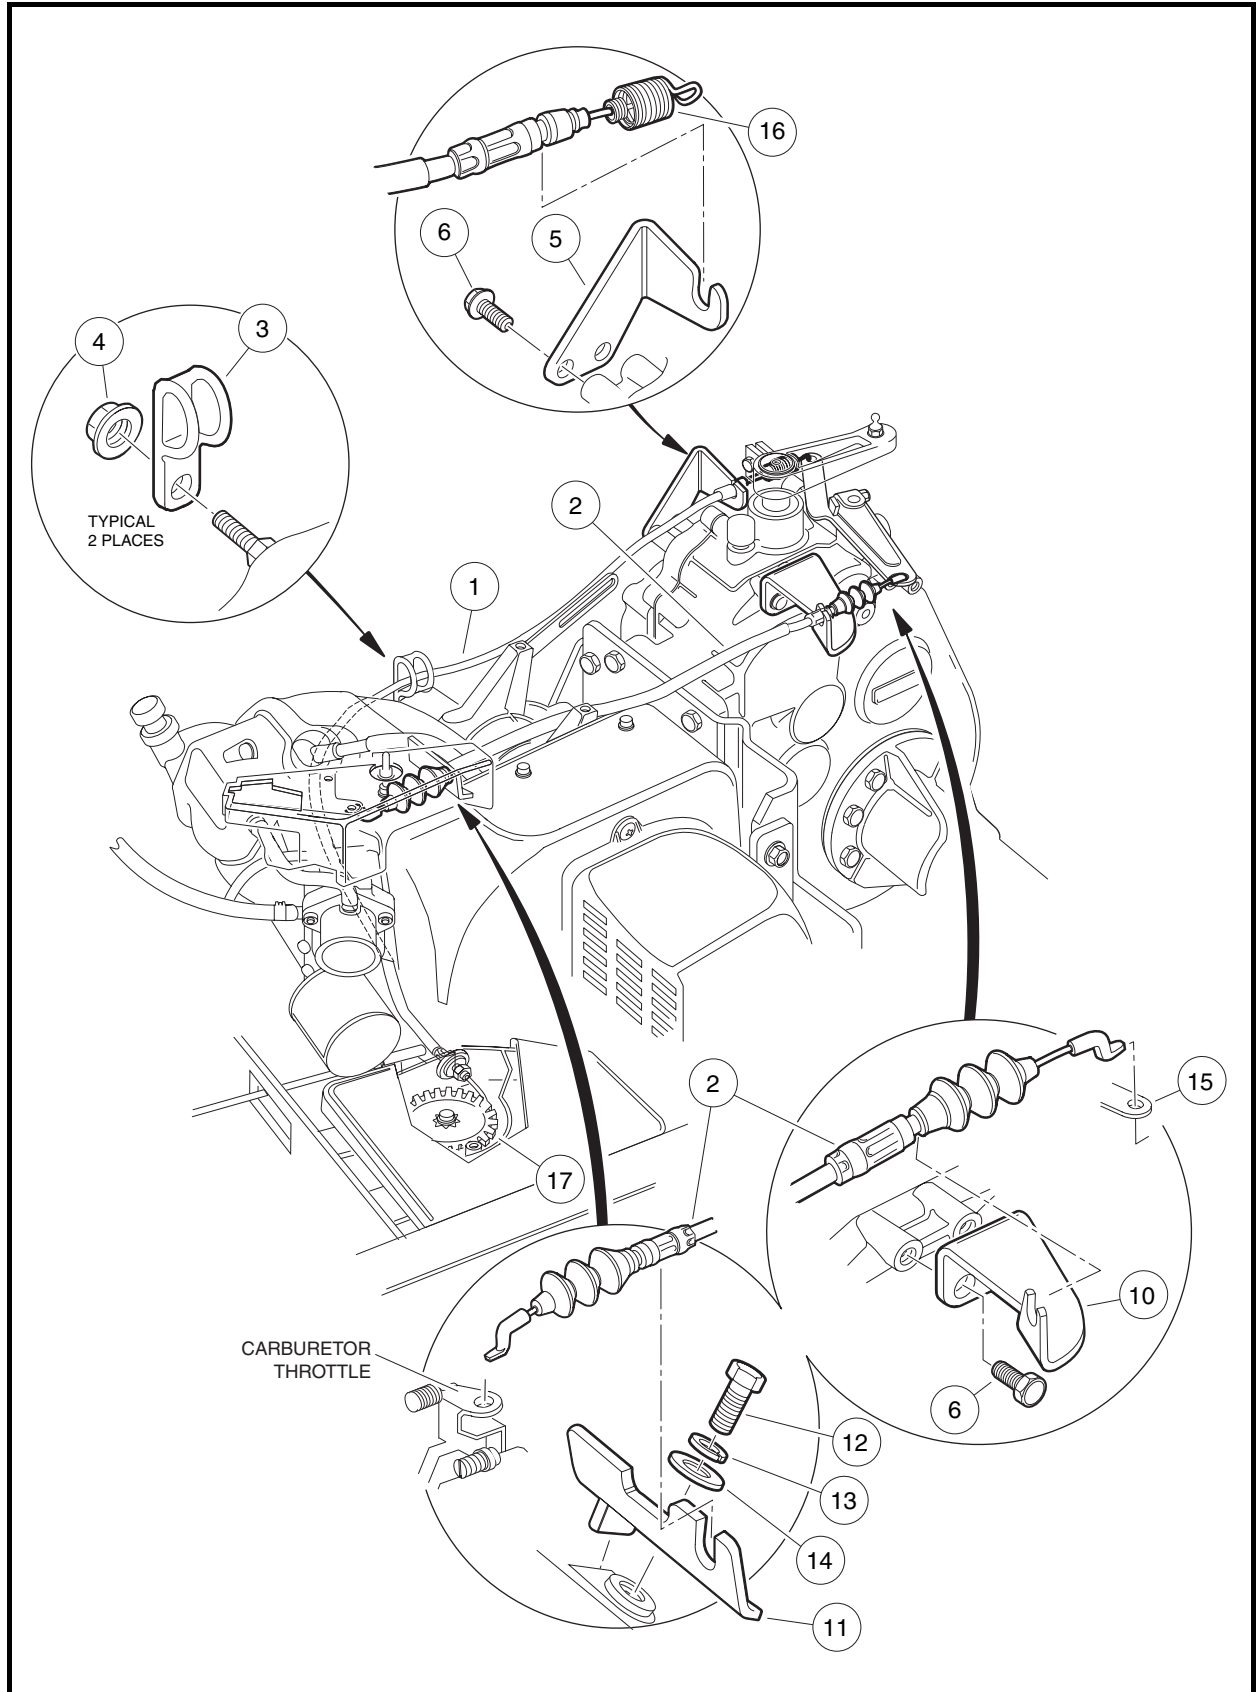

Figure 14-6 Governor and Accelerator Cables
4. Disconnect the governor cable (2) at the carburetor throttle (**Figure 14-6, Page 14-10**).
5. Disconnect the governor cable (2) from the governor lever arm (15).
6. Remove the governor cable (2) from the governor cable engine bracket (11), and governor cable support bracket (10) (**Figure 14-6, Page 14-10**). Remove the cable (2) from the vehicle.
1. Install the cable onto the governor cable support bracket (10) and the engine bracket (11) (**Figure 14-6, Page 14-10**).
4. Connect the governor cable to the governor lever arm (15).
2. Disconnect the accelerator cable (1) from cam (17) in the electrical box (**Figure 14-6, Page 14-10**).
3. Disconnect the spring (16) from the engine governor arm.
4. Remove the accelerator cable from the accelerator cable bracket (5). Remove the cable assembly from the vehicle.
1. Connect the cable to the cam (17) in the electrical box (**Figure 14-6, Page 14-10**).
3. Connect the spring (16) to the engine governor arm (**Figure 14-6, Page 14-10**).
4. Install cable in accelerator cable bracket (5).